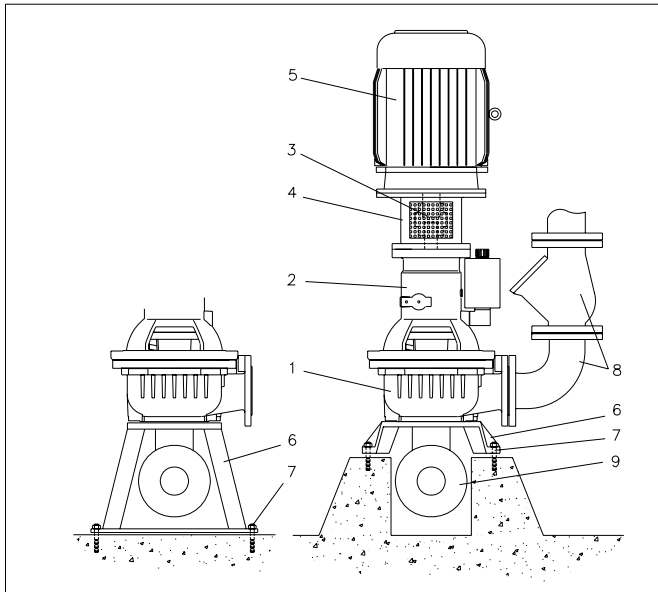

Fig. 7.4
See fig. 7.4.
- fixation of the baseplate to the floor, see fig. 7.4 pos. 7.